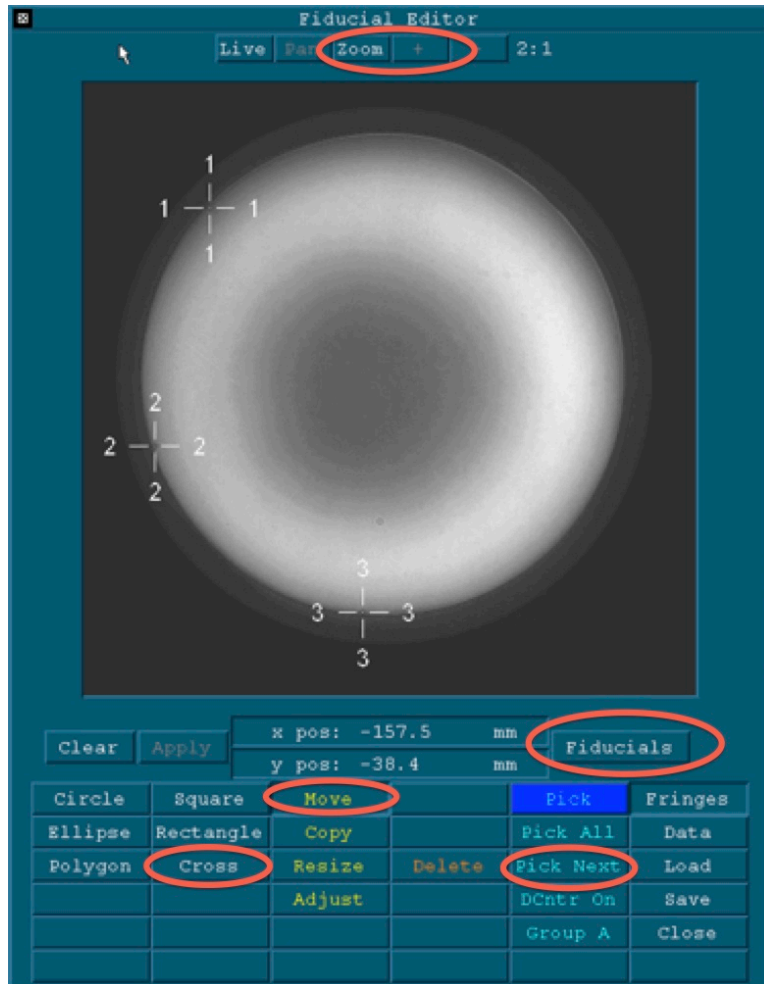

Figure 5: The fiducial editor is found under the Mask editor by toggling the button at the right labeled Fiducials
11. View the Fiducials (found by clicking the “Mask Data” button, then the Mask/Fiducial toggle as shown in Figure 5. IMPORTANT: choose the “Data” view instead of “Fringes” view (lower right.)